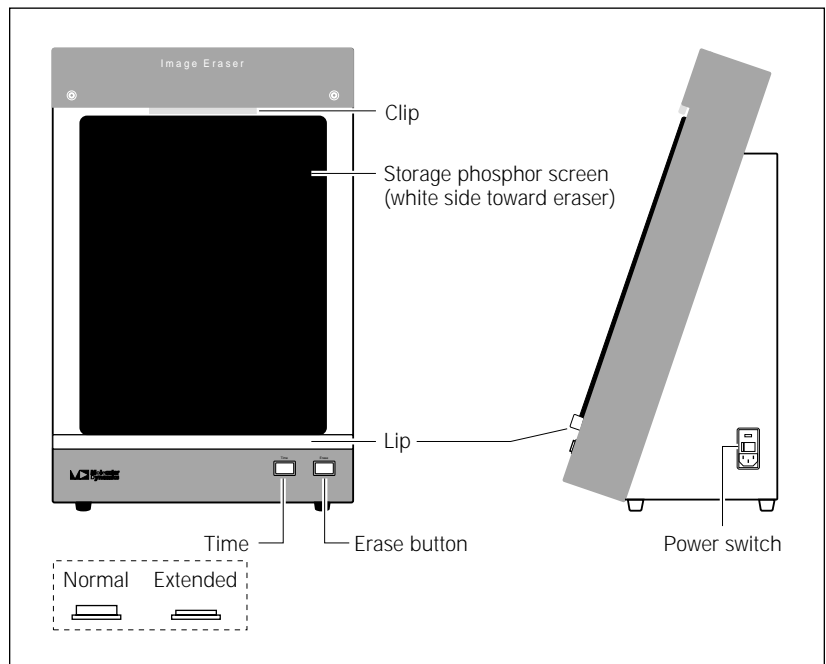

Figure 5-1. Erasing the storage phosphor screen.
2. Place the screen on the eraser as shown in figure 5-1. Rest the screen on the lip of the eraser. To erase two small screens at once, suspend an unmounted screen from the clip at the top of the eraser. Do not use the clip on the tritium screens.
3. Set the eraser time by pressing the **Time** button. Figure 5-1 shows the button positions for Normal (out) and Extended (in). Select—